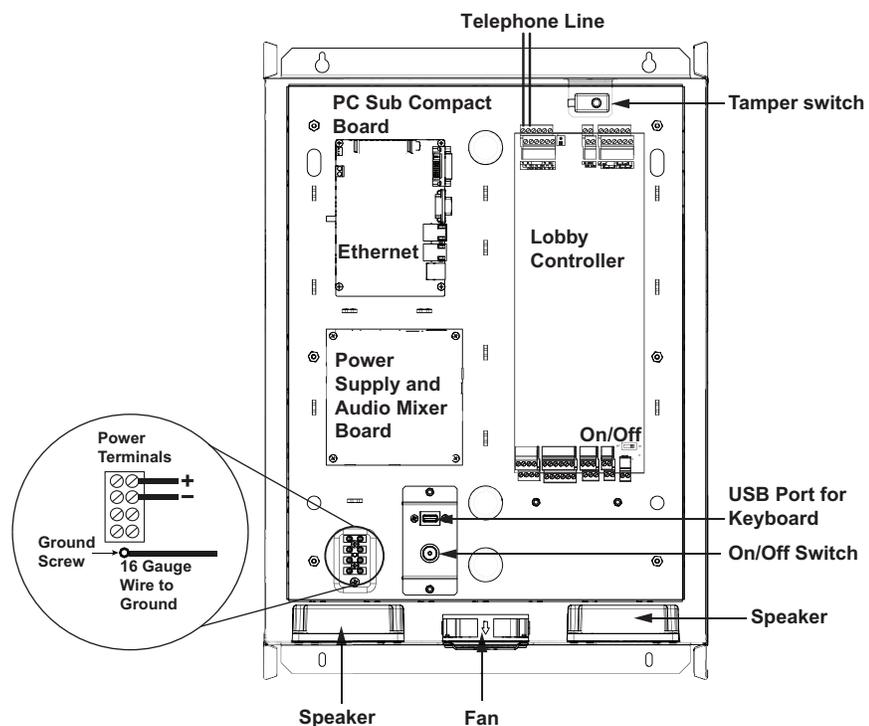

Figure 51. TX3-TOUCH-S15B-WR and TX3-TOUCH-S15S-WR controller board panel
The TX3-TOUCH-S15B-WR and TX3-TOUCH-S15S-WR contain the following components and controller boards as shown in Figure 51:
1. Attach the ground screw to a suitable grounding wire and connect it to the site ground, as shown in Figure 51.